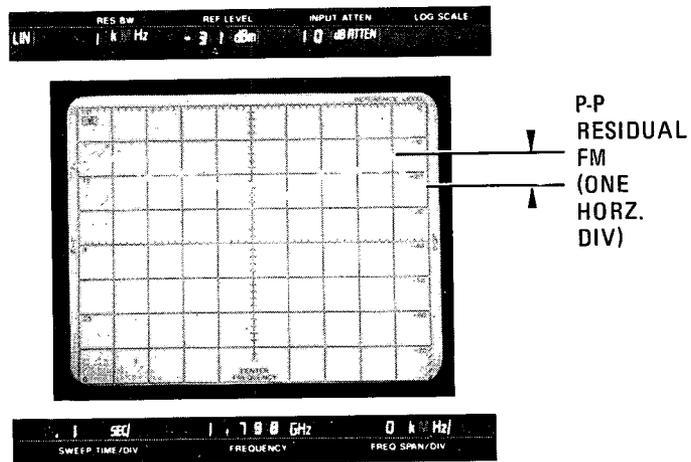

Figure 4-9. Residual FM Display
- i. Set SWEEP TRIGGER to SINGLE and ERASE CRT. Press START/RESET pushbutton to display one sweep as shown in Figure 4-9. The maximum peak-to-peak variation should not exceed the test limit determined in step f for each horizontal division (since SWEEP TIME/DIV is .1 SEC and residual FM is specified in a time interval of 0.1 second).
- r. Set SWEEP TRIGGER to SINGLE and ERASE CRT. Press START/RESET pushbutton to display one sweep as shown in Figure 4-9. The maximum peak-to-peak variation should not exceed the test limit determined in step o.